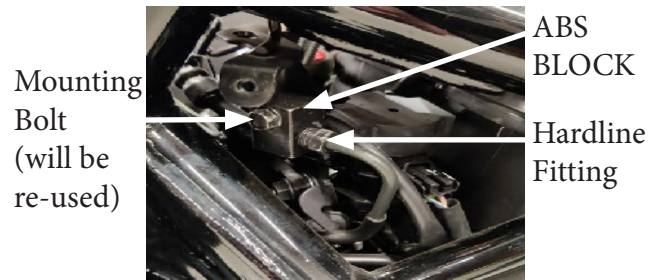

figure 2
2. Separate the brake line at the ABS Block (Figure 2) by unscrewing the hardline fitting with a 10mm wrench. Next, unscrew the mounting bolt (save it as it will be re-used). Next, remove the banjo bolt at the front brake master cylinder and removing the upper half of the brake line, but DO NOT remove the lower half of the brake line; it will be reused.